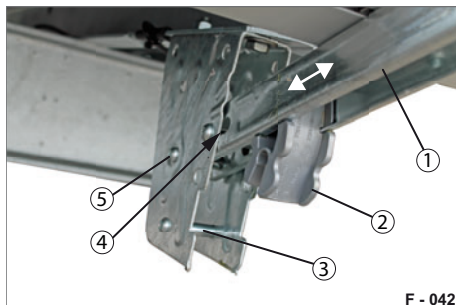
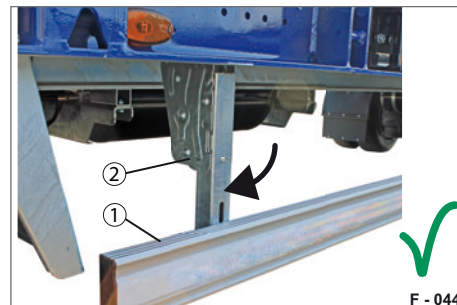

Fig. 75 Unlocking
Fig. 77 Folded down + secured
- Pull the side guard (Fig. 75/1) out of the retaining brackets (Fig. 77/2).
- Pull the side guard towards you in the slot (Fig. 75/4).
- Position the side guard (Fig. 75/1) so that the open slot can slide over the retaining bolt (Fig. 75/5).
- Slide the side guard into the slot so that it locks into the retaining bolt. Secure the side guard (Fig. 75/1) before folding down.
- Pull the side guard towards yourself in the slot so that it protrudes over the retaining brackets (Fig. 75/5).
- Press the side guard down with some force evenly into all retaining brackets (Fig. 77/2).
The clamping parts (plastic) lock on the lower bolts (Fig. 75/3).
The side guard (Fig. 77/1) is folded down and secured - drive position.